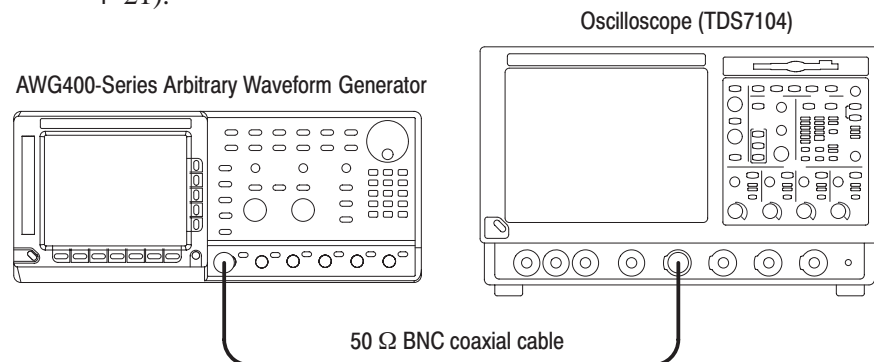

Figure 4–21: Step response initial test hookup
- a. Use the 50 Ω BNC coaxial cable to connect the AWG400-Series CH1 output connector to the oscilloscope CH1 input connector (see Figure 4–21).